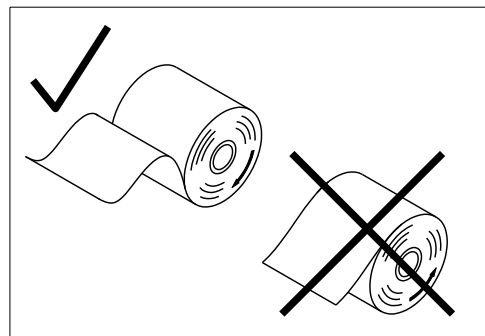

Fig. 1
3. CM 980-SF / 980-F: Insert a roll of thermal paper, 80 mm wide and max. 80 mm diameter, so that the thermal paper unrolls from the bottom and is fed past the printer mechanism, see Fig. 1.
4. CM 960-SF / 962-SF: Insert a roll of thermal paper, 57 mm wide and max. 60 mm diameter, so that the thermal paper unrolls from the bottom and is fed past the printer mechanism, see Fig. 1.